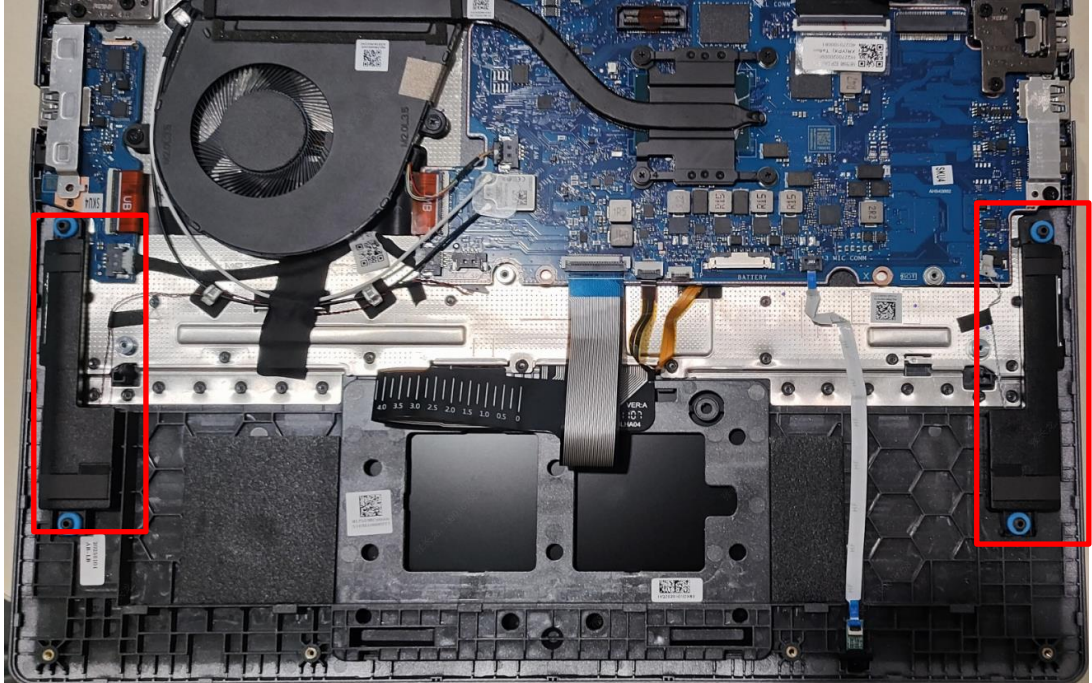

Figure 3-75. Replacing the Speaker Module
1. Place the speakers to their respective compartments on the top assembly (Figure 3-75).